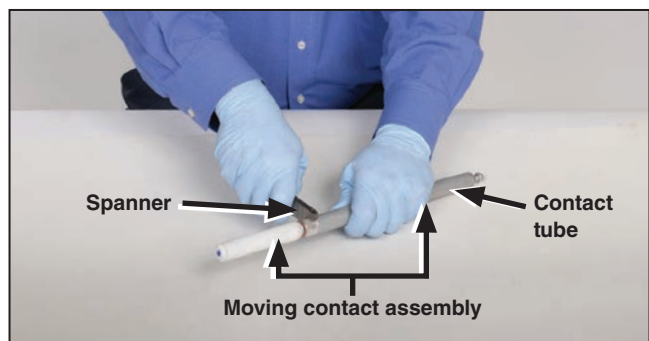

Figure 16. Unscrew the contact tube from the moving contact.
- STEP 13.** Use a drift pin or S&C spanner wrench (NA-1057) in the wrenching hole to unscrew the contact tube from the moving contact assembly. Remove the tube. See Figure 16. This concludes the Loadbuster tool disassembly.